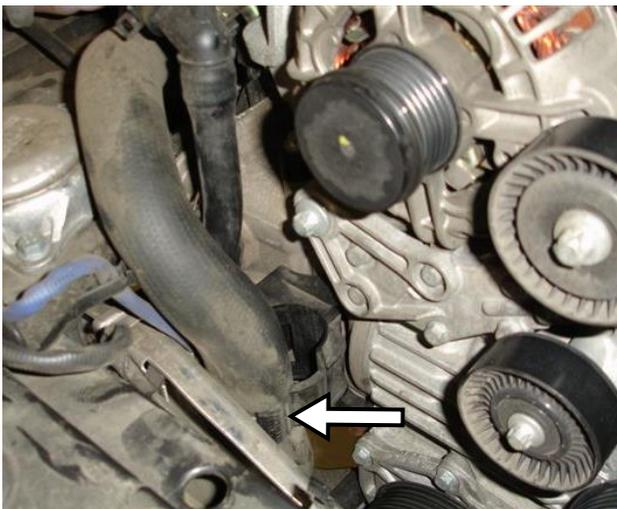

Figure 20
- Remove the plastic coolant hose bracket located on the left side of the engine (figure 20).